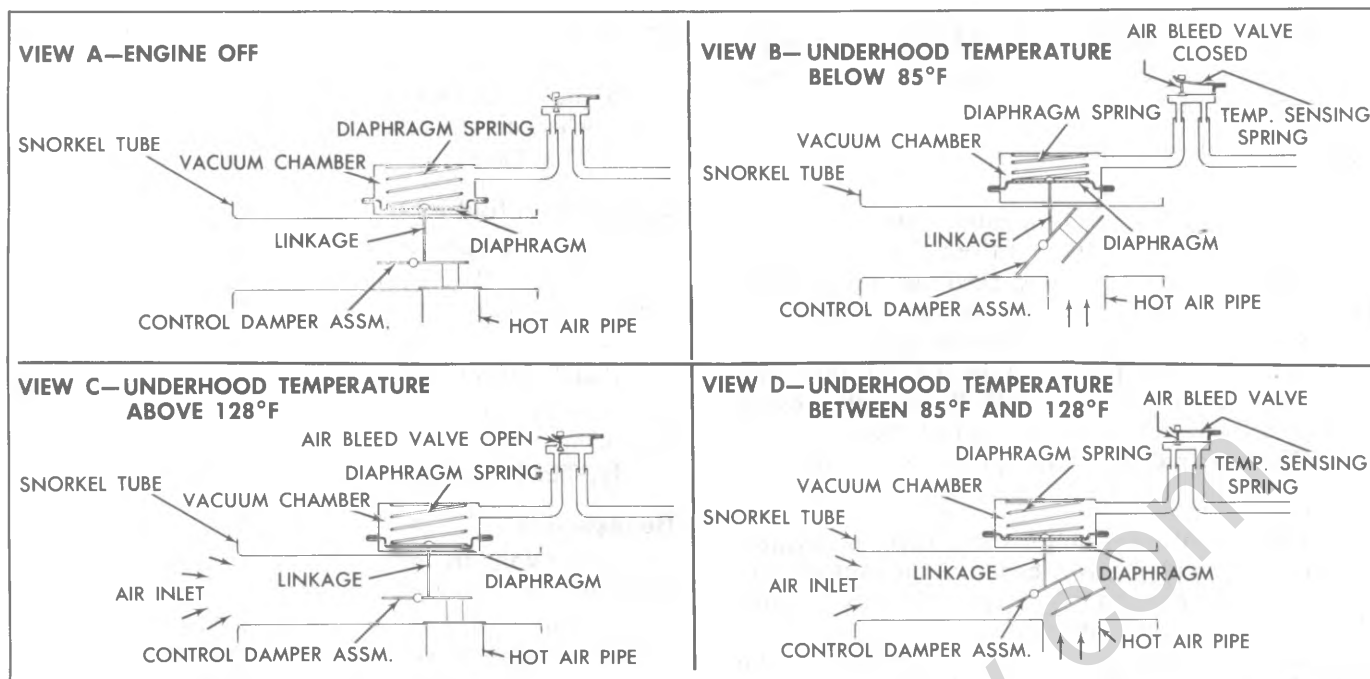

Fig. 6E-26--Air Cleaner Operation
2. With the engine "OFF", observe damper door position through snorkel opening. If position of snorkel makes observation difficult, use the aid of a mirror. At this point damper door should be in such a position that the heat stove passage is covered (snorkel passage open) (Fig. 6E-26). If not, check for binds in linkage.
is applied. (Fig. 6E-26). If not, check to see if linkage is hooked up correctly and for a vacuum leak.
4. With vacuum applied, bend or clamp hose to trap vacuum in diaphragm assembly. Damper door should remain in position (closed snorkel passage) (Fig. 6E-24). If it does not, there is a vacuum leak in diaphragm assembly. Replace diaphragm assembly.
2. Observe the damper door before starting the engine: it should be in the open snorkel position (Fig. 6E-26).
3. Start the engine and allow it to idle. Immediately after starting the engine, the damper door should be in the closed snorkel passage position (Fig. 6E-26).